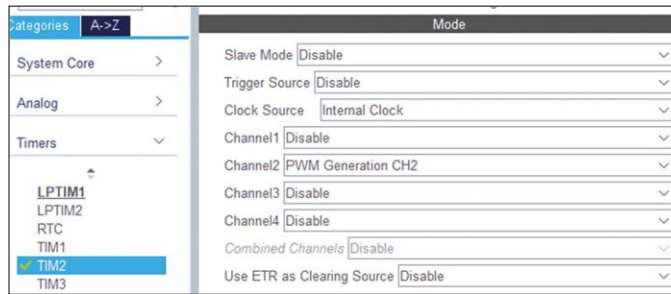

Figure 10.5: Enable PWM on channel 2 at TIM2.
- Click **TIM2** under **Timers** and select **Internal Clock** as the **Clock Source**, enable **PWM Generation CH2** as shown in Figure 10.5.